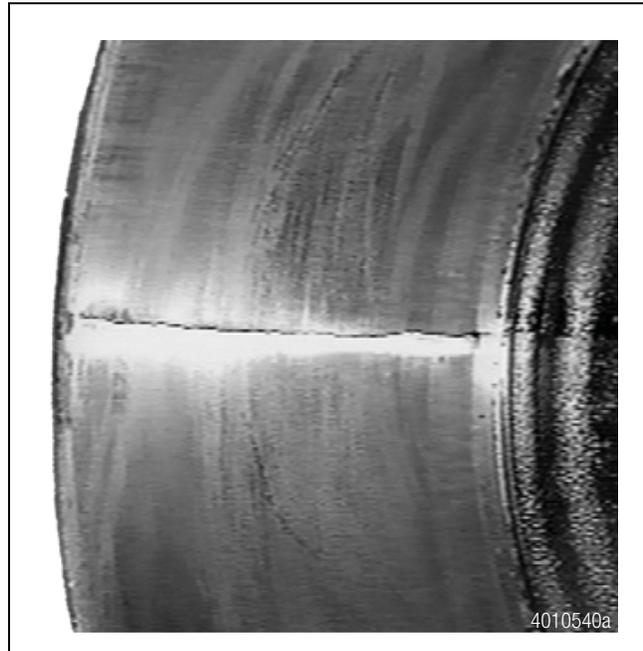

Figure 19
- Cracks in the brake drum. Figure 19.